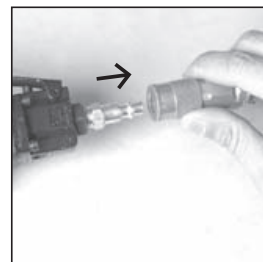

Figure 13
1. Disconnect the tool from air supply. (See Figure 13)